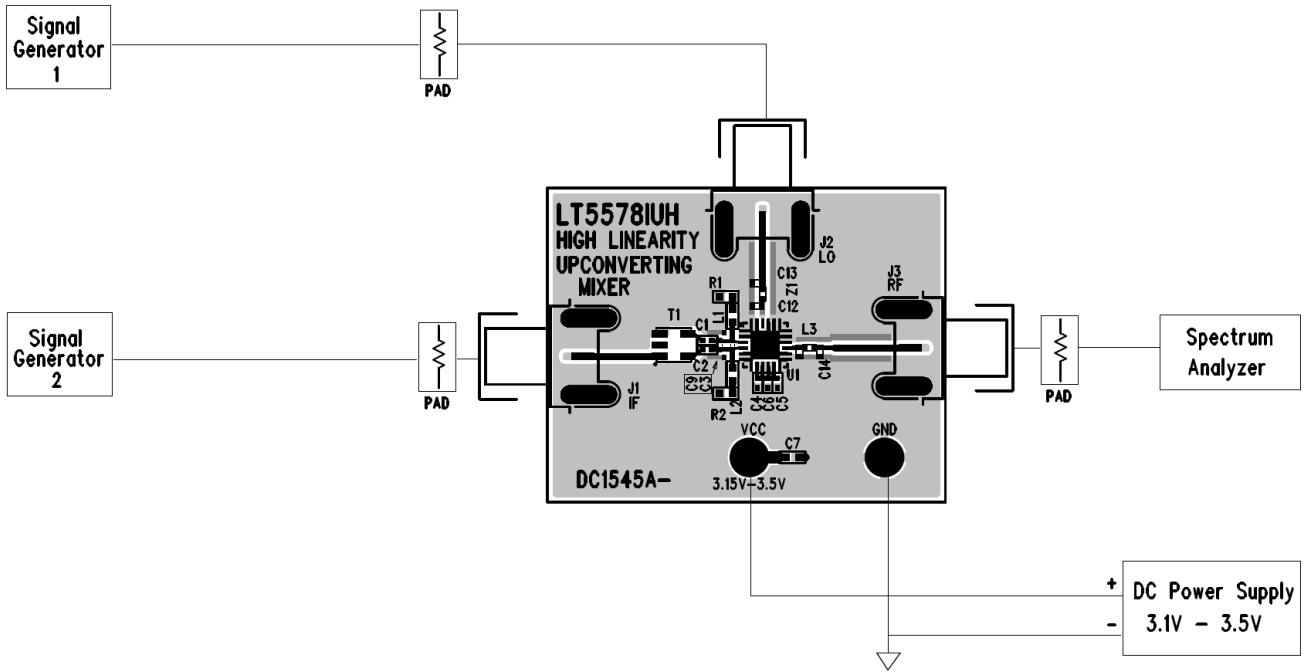

Figure 5. Proper Equipment Setup for Single-tone RF Measurements
1. Connect all test equipment as shown in Figure 5.